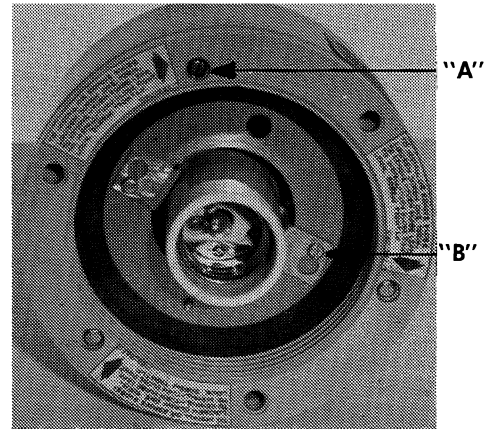

Figure 1
1. Loosen two (2) lampholder strap mounting screws, "B", turn lampholder left, and remove. (See Figure 1)
6. Replace lampholder, turn right, and securely tighten (2) mounting screws, "B". (See Figure 1)
8. To install globe loosen 3 globe mounting ring screws ("A") one (1) turn. Turn globe right until fully seated against gasket. Retighten the 3 screws to lock globe. (See Figure 1)